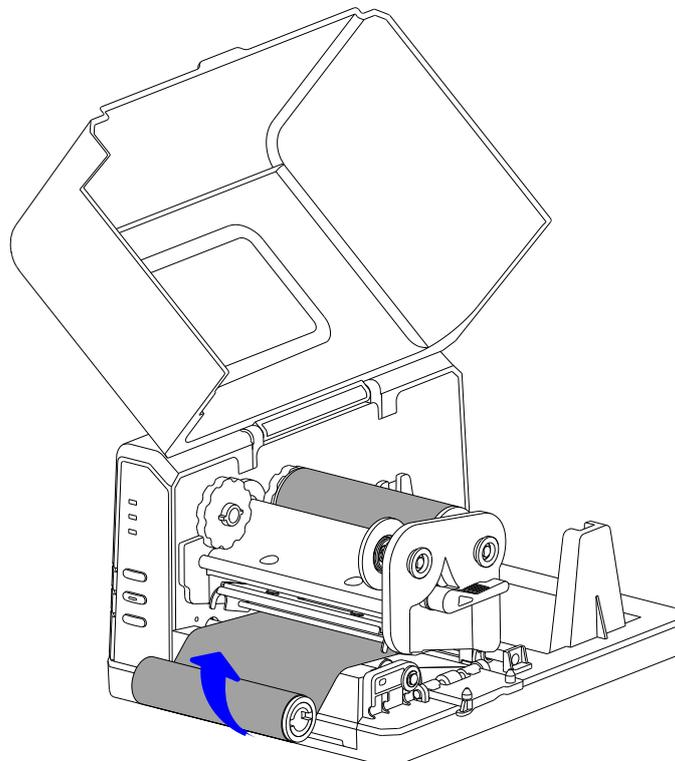

Figure 2-6 Wrap Ribbon on the Core
4. Wrap the end of the ribbon around the spare core, as shown in Figure 2-6.